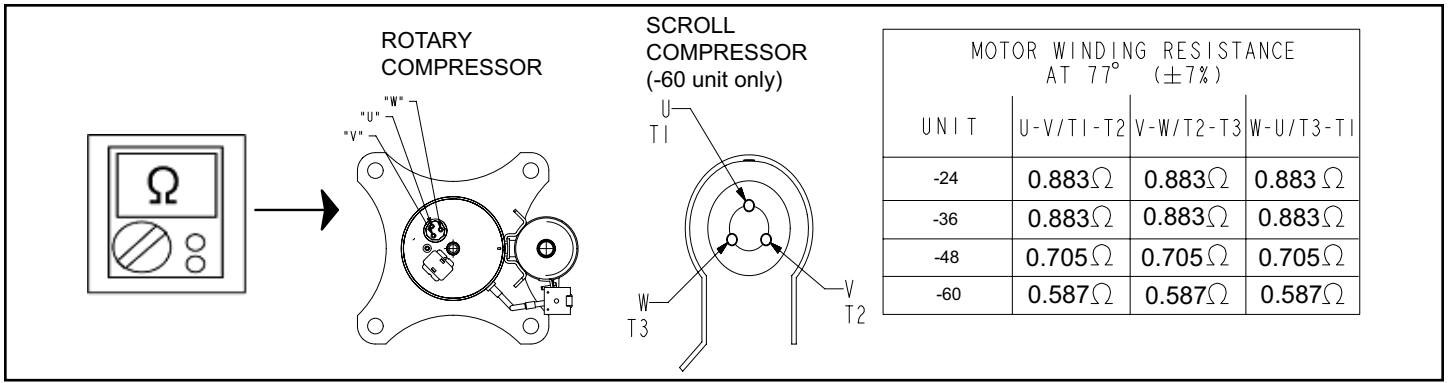

Figure 35. Compressor Operation, Checkout and Status/Error Codes
**NOTE:** When checking the ohms across a sensor, be aware that a sensor showing a resistance value that is not within the range shown in Figure 35, may be performing as designed. However, if a shorted or open circuit is detected, the sensor is faulty; the sensor needs to be replaced.